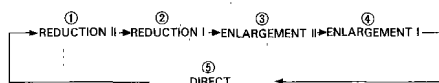

Figure 1-6
- When the REDUCTION/ENLARGEMENT key is pressed, each press activates the reproduction ratios as shown in Figure 1-6.